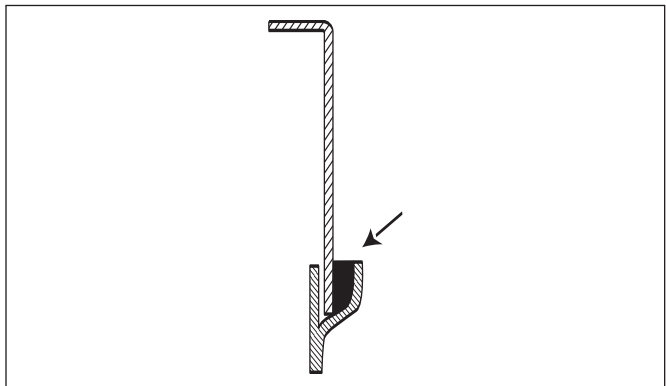

FIGURE 5-2
5.2. Fill the space between the sump top and the outside edge of the channel with sealant. (See FIGURE 5-2.)